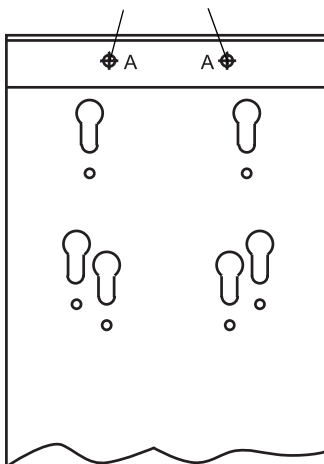

Fig. 2.2 Safe-T-Cube mounting plate
- (5) Refer to Fig. 2.2 and identify the fixing slots in the Safe-T-Cube mounting plate for the gas monitor to be fitted.
- (6) Insert the feet (on the underside of the gas monitor) into the appropriate keyhole slots on the mounting plate.